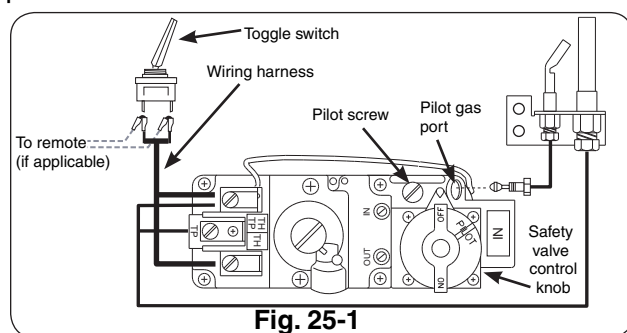

Fig. 25-1
To read the safety valve control knob (Fig. 25-1), read the marking nearest the teardrop-shaped metal pointer.
- b. If adjustment is necessary (Fig. 25-1), turn the gas adjustment screw counterclockwise ↺ to increase the pilot flame, or clockwise ↻ to decrease the pilot flame.